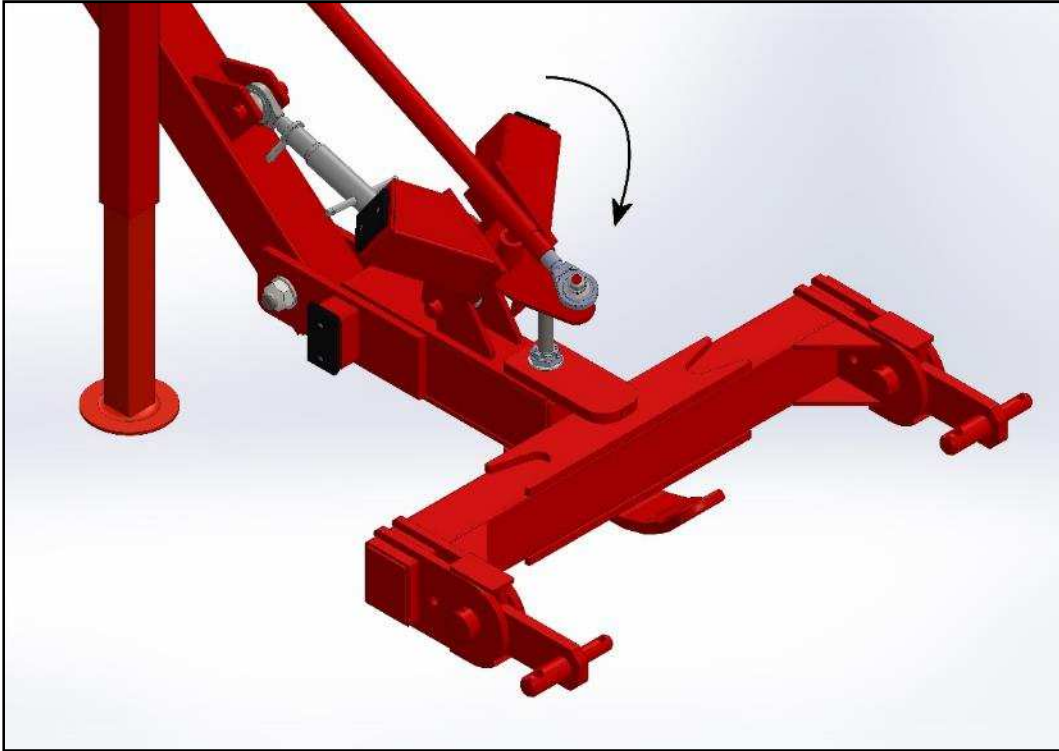

Figure 24
- Unlock and lower the V-shaped steering drawbar stop (see Figure 24).